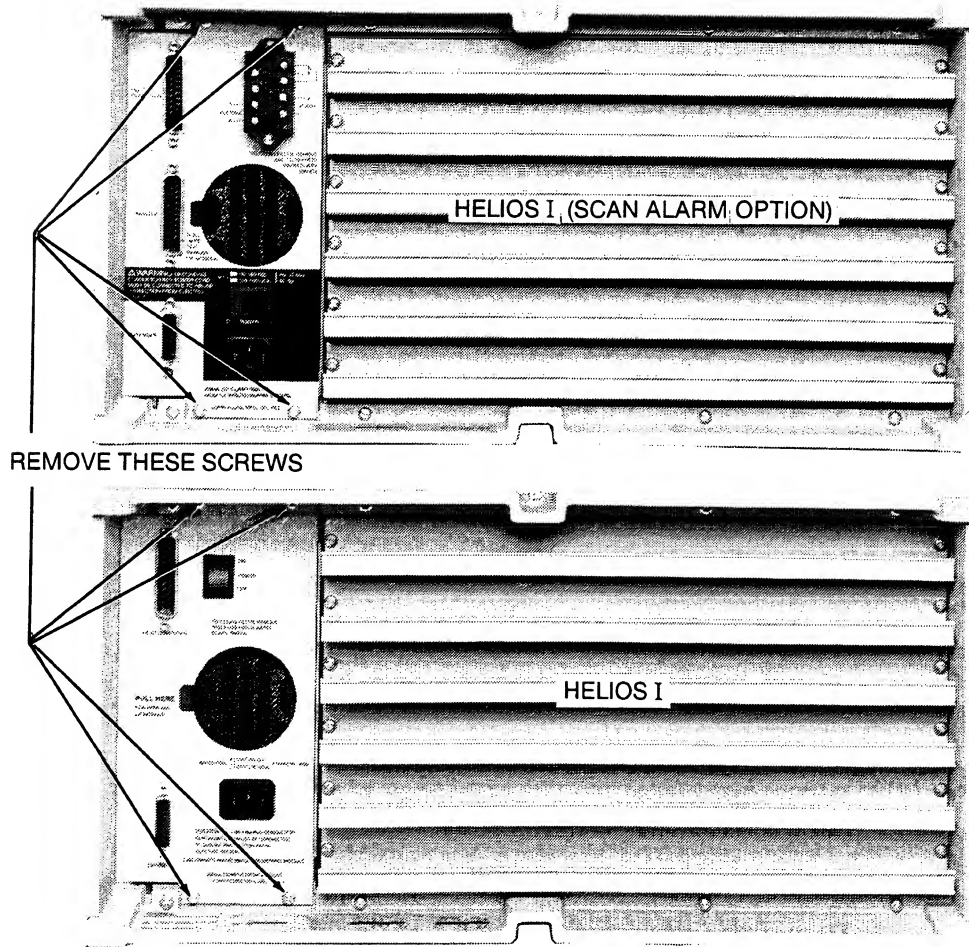

Figure 3-2. Computer I/F Module Securing Screws
1. Remove the Computer Interface Module by removing the four #6-32 phillips-head screws on the rear panel. See Figure 3-2 to locate the screws.